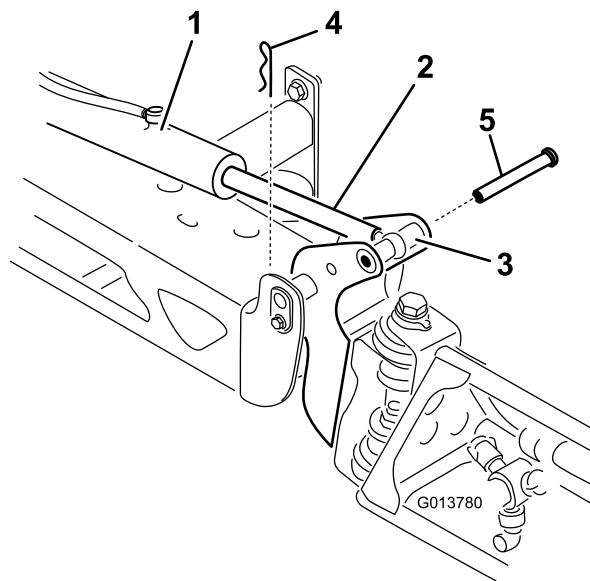

Figure 118
2. Remove the cotter pin from the pivot pin (Figure 118).
3. Lift up on the boom and remove the pin (Figure 118), and slowly lower the boom to the ground.
- While holding the boom, insert the pin through both boom pivot and rod end (Figure 118).